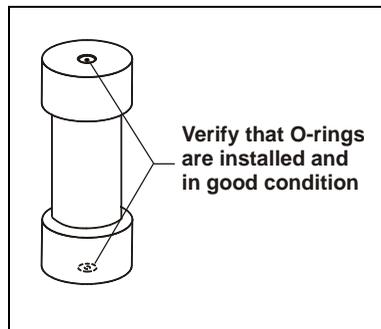

Figure 3-8. Inspecting Cell O-Rings
5. Check the ends of each cell end cap to verify that the O-rings are in place and are in good condition (see Figure 3-8).